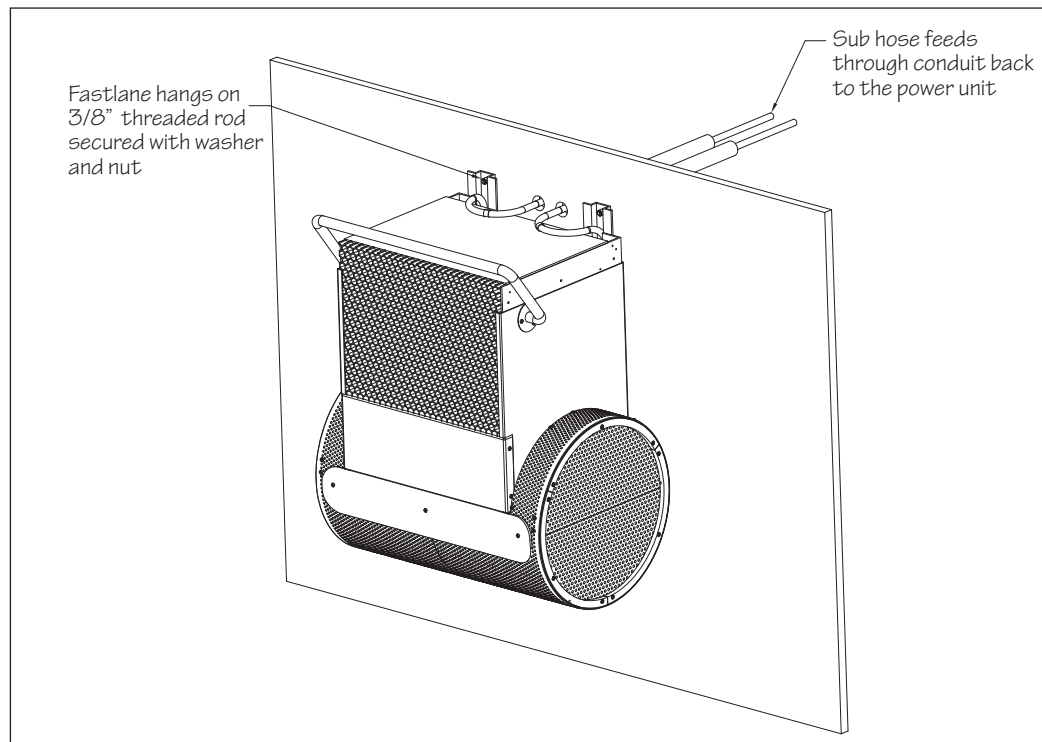

Fig 7.1
- 7.3 Hang the hydraulic hoses down over the front of the Fastlane Swim Unit. Match the holes on the top of the "hat" channel of the housing with the stainless steel, threaded rods in the wall mount bracket. Secure tightly with the two (2) 3/8" stainless steel flat washers, the two (2) lock washers, and the two (2) nuts provided (one for each rod) as shown in Figure 7.1. Attach the bonding wire to the bonding lug set located on the wall mount bracket to bond the entire swim unit to the pool.